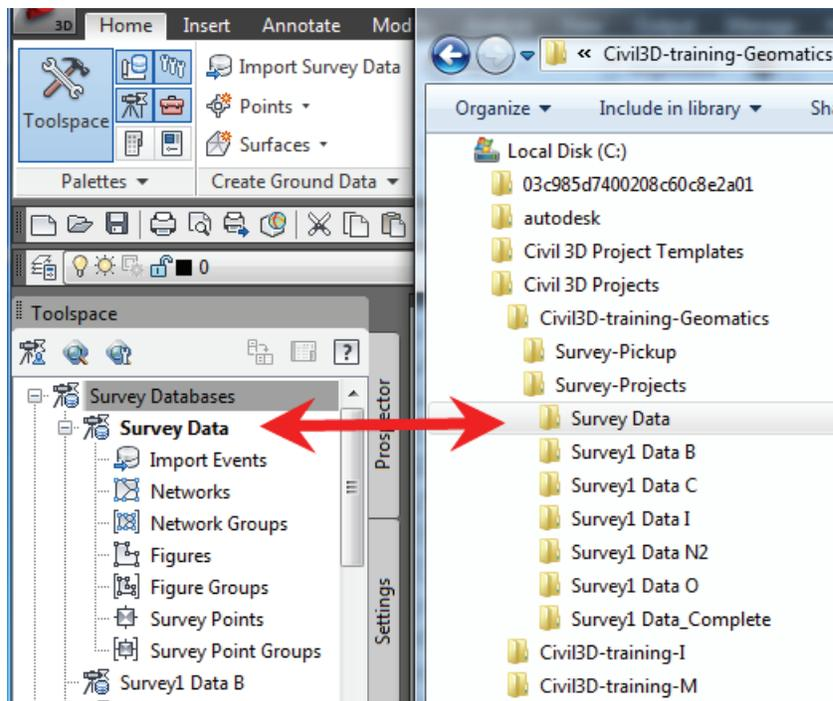

Figure 2–7
12. To edit the Survey Database settings, select **Survey Data**, right-click, and select **Edit survey database settings...**, as shown in Figure 2–8.